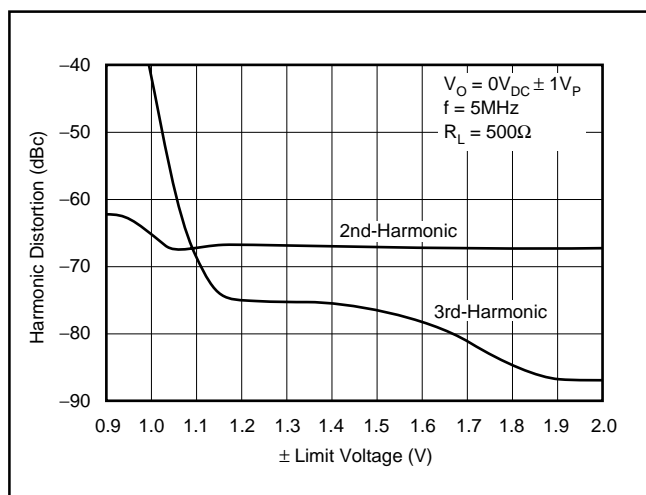

FIGURE 13. Harmonic Distortion Near Limit Voltages.
- The limiter offset voltage only slightly degrades limiter accuracy. Figure 13 shows how the limiters affect distortion performance. Virtually no degradation in linearity is observed for output voltage swinging right up to the limiter voltages. In this plot a fixed  $\pm 1V$  output swing is driven while the limiter voltages are reduced symmetrically. Until the limiters are reduced to  $\pm 1.1V$ , little distortion degradation is observed.